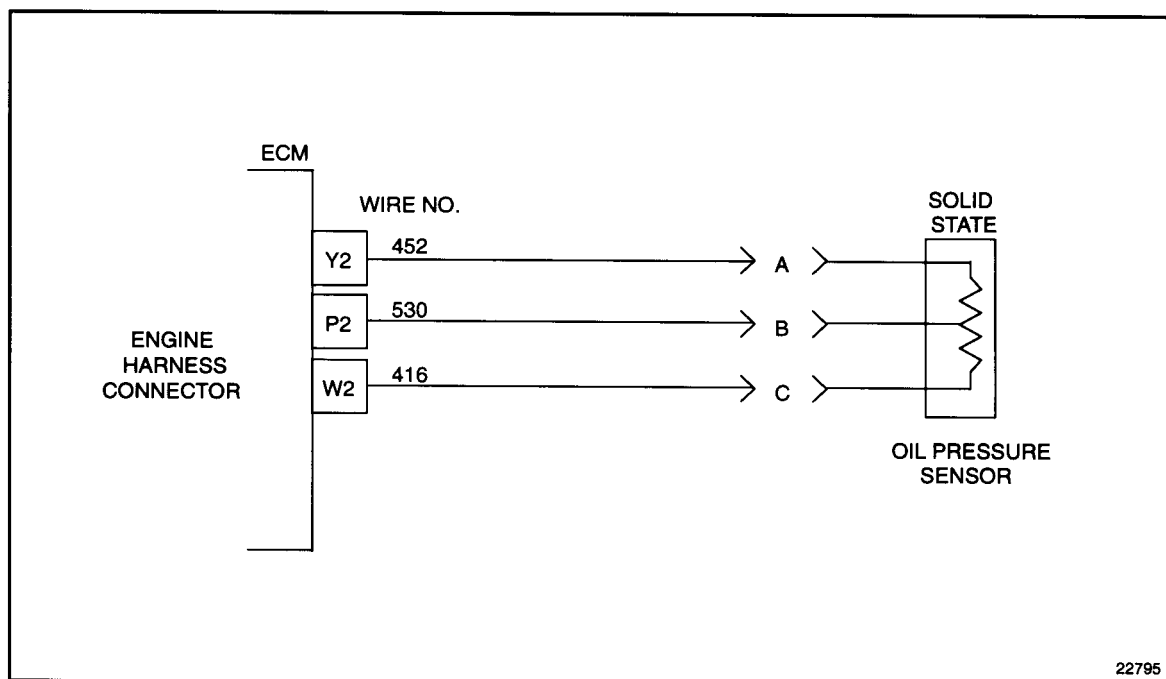

Figure 36-2 Engine Harness Connector to Oil Pressure Sensor
2. Disconnect OPS connector and install a jumper wire between sockets B and C of the OPS harness connector. See Figure 36-2.